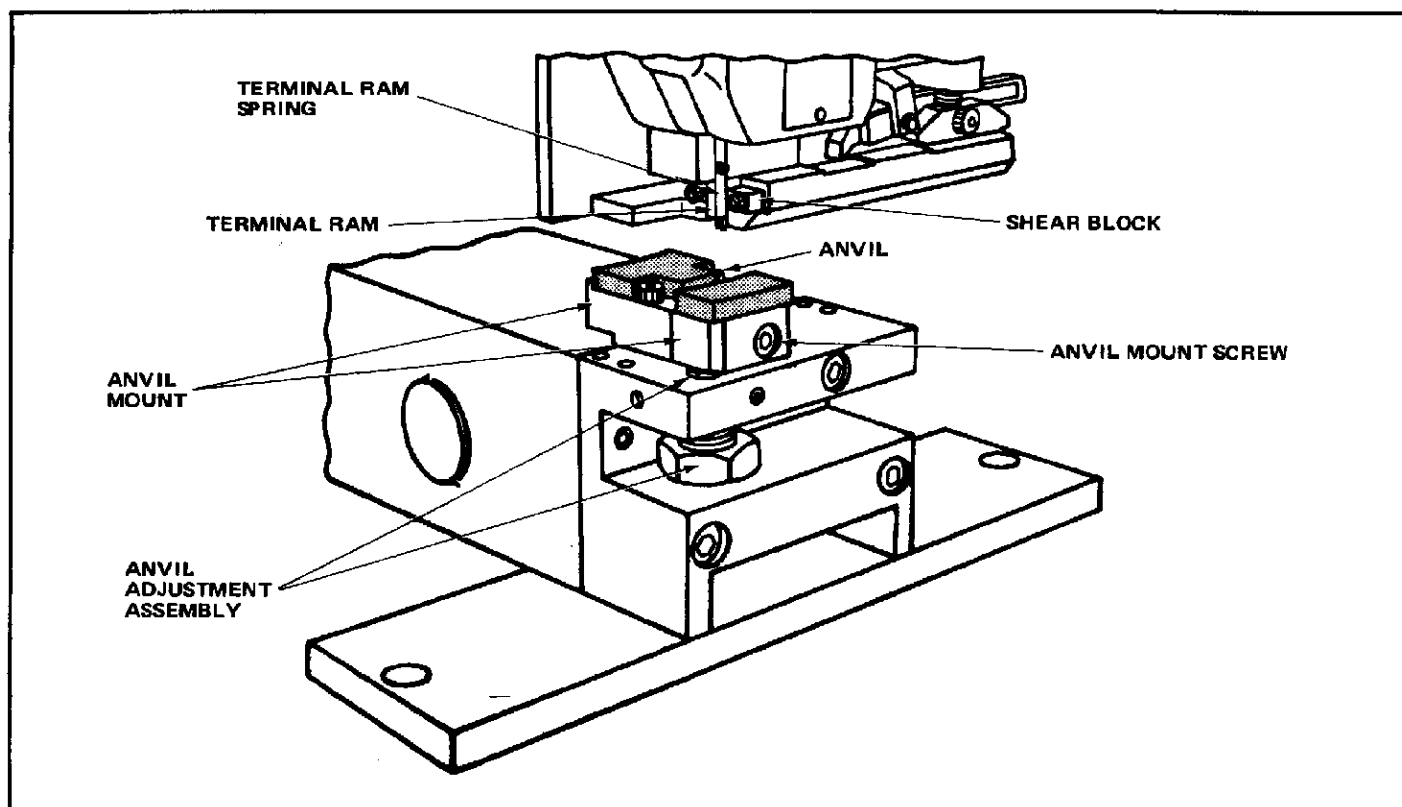

FIGURE 2
4.3. Anvil Alignment Adjustment (See Figure 2)
4.4. Anvil Height Adjustment (See Figure 2)
6.2. Anvil Replacement (See Figure 2)
6.3. Terminal Ram and Ram Spring Replacement (See Figure 2)
6.4. Shear Block Replacement (See Figure 2)